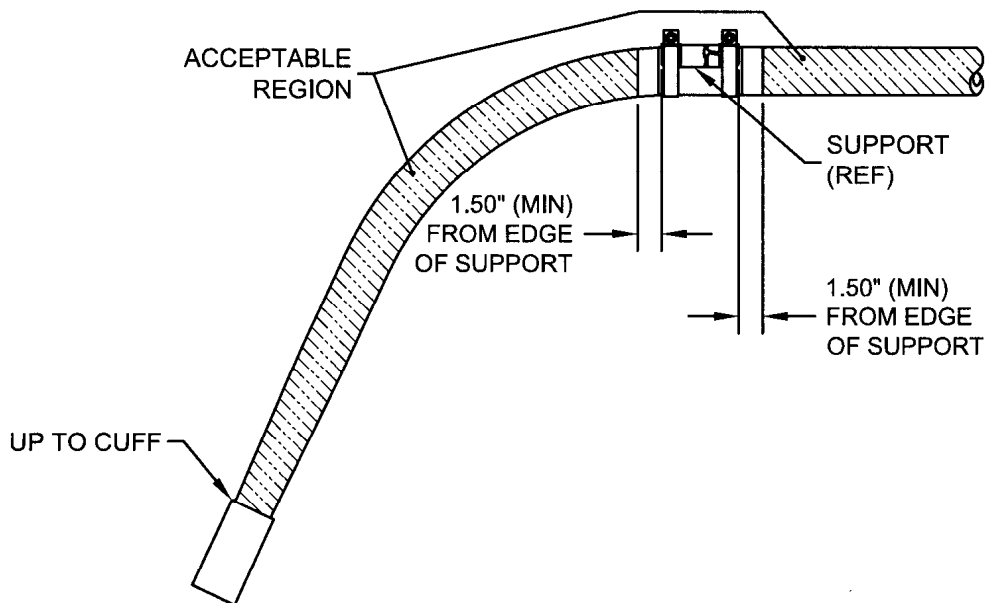
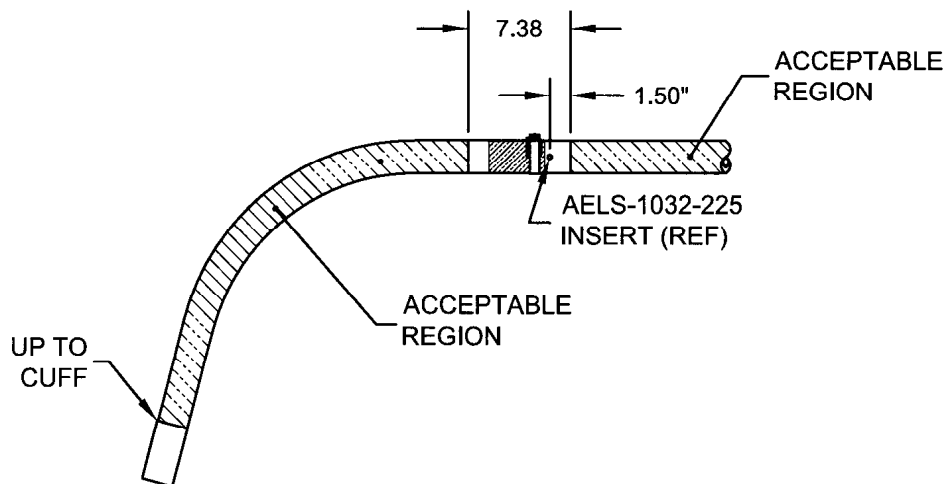

FIGURE 1 - ACCEPTABLE REGIONS TO BE COATED WITH ARMOR SHIELD
FIGURE 2 - ACCEPTABLE REGIONS TO BE COATED WITH ARMOR SHIELD
To further protect Dart crosstubes from mechanical damage in service, they may be treated with "Armor Shield" surface treatment. To designate crosstubes with 'Armor Shield' add 'A' to the Part Number. For example, D206-667-101A is a D206-667-101 crosstube coated with Armor Shield. It is acceptable to apply the Armor Shield in regions shown in Figure 1 or Figure 2 only. It is **NOT** acceptable to apply Armor Shield in the cuff and support/clamp regions. The following installations are applicable:
- 1.3 Mask areas around supports and cuffs per Figure 1 or Figure 2 (D350-748-101/-201 only). Abrade paint finish in areas requiring protection using 800 grit sandpaper. Ensure the surface is de-glossed.
(SEE FIGURE 2 FOR D350-748-101/-201 CROSSTUBES)